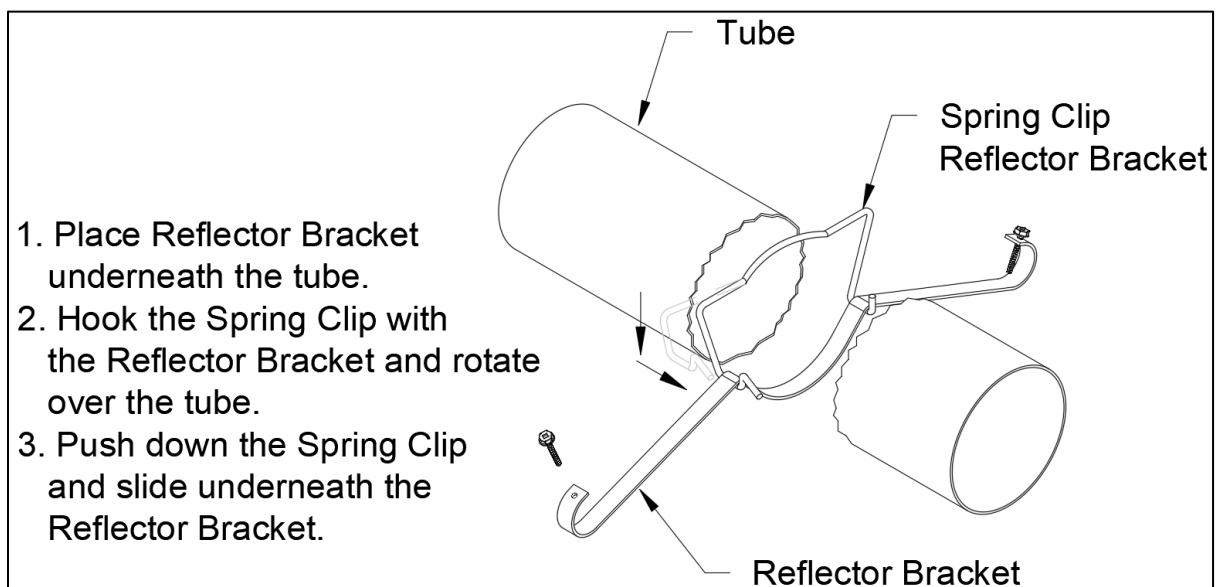

Figure 13: Reflector Support Bracket Installation
- Install reflector support brackets, one at each reflector overlap position, and one in the middle of each 10' reflector length. Figure 13 shows the installation of the reflector support bracket.